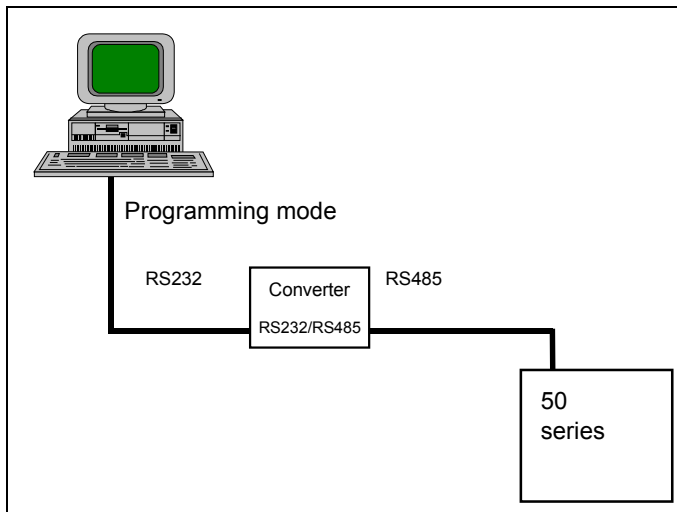

Figure 7-14 : programming protocol configuration on CS31 connection (COM2)
- This protocol can be also used on the CS31 connection (COM2) (see Figure 7-14).